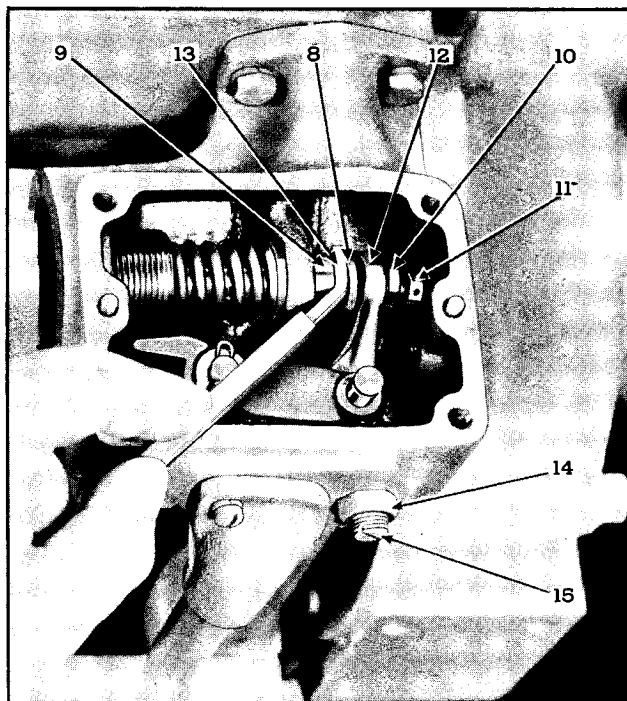
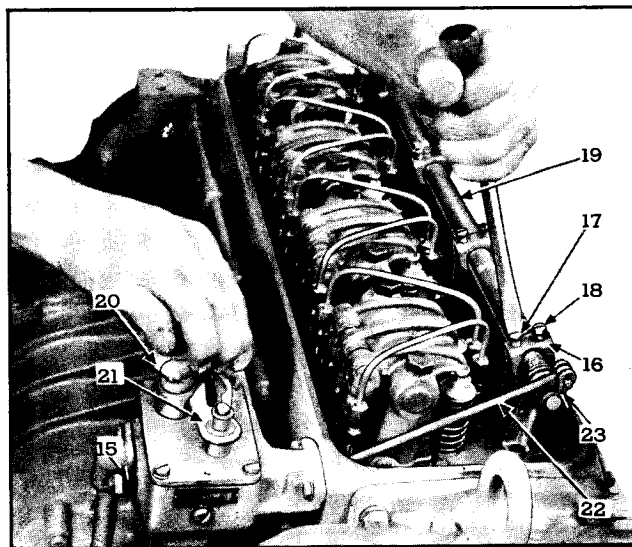

Fig. 5—Adjusting Spring Plunger Gap and Checking with Tool J 4658.
Fig. 6—Positioning Injector Control Racks.
- Remove connecting link (22) between governor and injector control tube lever (23) Fig. 6.
The governor gap specification for this governor is .170" with the engine not running. Measure the gap between the low speed spring cap (8) and the end of the governor spring plunger (9) with Tool J 4658 as shown in Fig. 5. If gap does not meet specifications, adjust in accordance with Steps 7 and 8 below.
7. Loosen lock nut (10) and turn gap adjusting screw (11) until the gap meets the specification.
IV. Position Injector Racks—The position of the injector racks must be correctly set in relation to the governor. Their position determines the amount of fuel injected into each cylinder and insures equal distribution of load. Adjust No. 1 injector rack control lever (16), first, in order to establish a guide for adjusting the remaining injector rack control levers (see Fig. 6).
1. Loosen locknut and back out buffer screw (15) until it projects about $\frac{5}{8}$ " from the governor housing.
2. Loosen inner (17) and outer (18) adjusting screws of all injector rack control levers several turns. Be sure all levers "swing freely" on injector control tube (19).
3. Turn down inner adjusting screw (17) on No. 1 injector rack control lever (16) until screw "bottoms."
4. Move governor control lever (20) toward full open position. Do not force it past the point at which resistance to movement suddenly increases, but hold it at this point, pressing lightly toward full open position.
5. Back off inner adjusting screw (17) which will allow governor control lever (20) to move toward full open position. Continue until governor control lever just "bottoms" at end of governor cam (21).